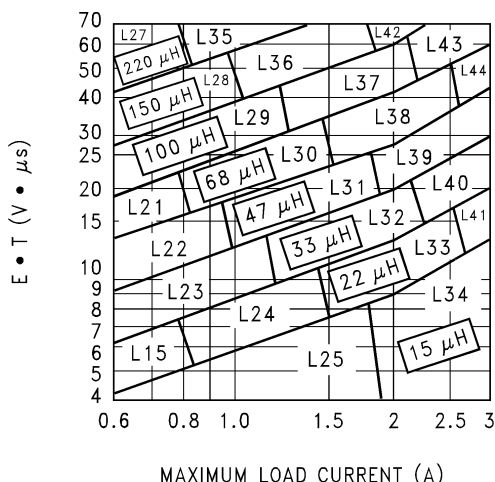

Figure 24. LM2596-ADJ
<p>2. Inductor Selection (L1)</p> <p>A. Calculate the inductor Volt • microsecond constant $E \cdot T$ ($V \cdot \mu s$), from the following formula:</p> $E \cdot T = (V_{IN} - V_{OUT} - V_{SAT}) \cdot \frac{V_{OUT} + V_D}{V_{IN} - V_{SAT} + V_D} \cdot \frac{1000}{150 \text{ kHz}} (V \cdot \mu s)$ <p>where</p> <ul style="list-style-type: none"> V_{SAT} = internal switch saturation voltage = 1.16V V_D = diode forward voltage drop = 0.5V (4) <p>B. Use the $E \cdot T$ value from the previous formula and match it with the $E \cdot T$ number on the vertical axis of the Inductor Value Selection Guide shown in Figure 24.</p> <p>C. on the horizontal axis, select the maximum load current.</p> <p>D. Identify the inductance region intersected by the $E \cdot T$ value and the Maximum Load Current value. Each region is identified by an inductance value and an inductor code (LXX).</p> <p>E. Select an appropriate inductor from the four manufacturer's part numbers listed in Table 3.</p>	<p>2. Inductor Selection (L1)</p> <p>A. Calculate the inductor Volt • microsecond constant ($E \cdot T$),</p> $E \cdot T = (28 - 20 - 1.16) \cdot \frac{20 + 0.5}{28 - 1.16 + 0.5} \cdot \frac{1000}{150} (V \cdot \mu s)$ $E \cdot T = (6.84) \cdot \frac{20.5}{27.34} \cdot 6.67 (V \cdot \mu s) = 34.2 (V \cdot \mu s) \quad (5)$ <p>B. $E \cdot T = 34.2 (V \cdot \mu s)$</p> <p>C. $I_{LOAD(max)} = 3A$</p> <p>D. From the inductor value selection guide shown in Figure 24, the inductance region intersected by the 34 ($V \cdot \mu s$) horizontal line and the 3A vertical line is 47 μH, and the inductor code is L39.</p> <p>E. From the table in Table 3, locate line L39, and select an inductor part number from the list of manufacturers part numbers.</p>